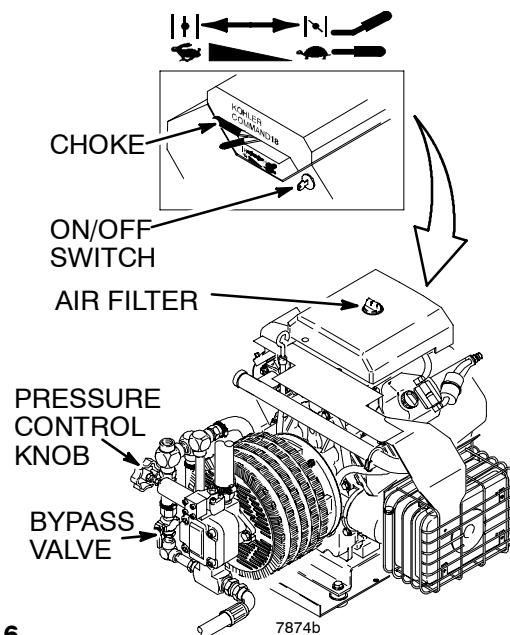

Fig 6
- a. Open the bypass valve to make startup easier. In the open position, the valve lever is parallel to the body of the valve. See Fig 6. Close the filter drain valve.
- d. If the engine is cold, close the choke by moving the choke lever. See Fig 6.
3. Turn and hold the ignition key to START until you hear the engine "catch", then release the key to RUN. See Fig 6. If the engine does not start, open the choke a little (move lever). If the engine floods, open the choke all the way and try again.
- e. After the engine is warm, gradually open the choke lever (move choke lever) and close the bypass valve. See Fig 6.
To stop the engine in an emergency, turn OFF the ignition key. Close the bypass valve if possible. See Fig 6. Then follow the **Pressure Relief Procedure Warning on page 10.**
- Squeeze the trigger and *slowly* turn the pressure control knob *clockwise* just enough to start the pump. See Fig 6.